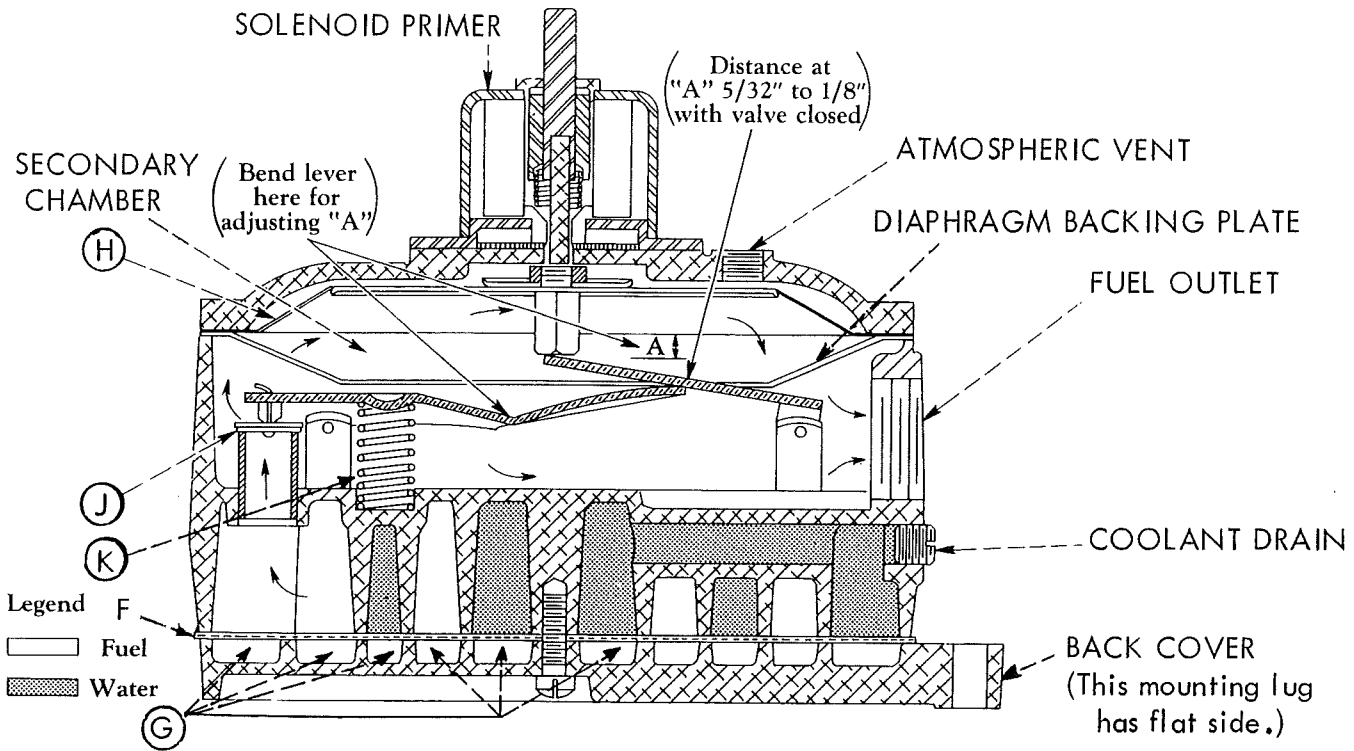
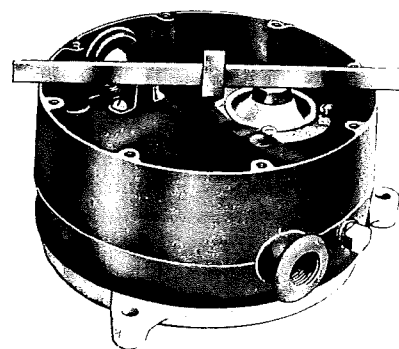

FIGURE 2
FIGURE 16
3. Secondary Regulator – Figure 2
- c. Place lever assembly in position and insert hinge pin. Be sure that compound lever is on top of valve lever. (Figure 2) Retain hinge pin with two #1H-27 hair pin cotters.
- e. Use #2V-01 Gauge to set lever height. (Figure 16) **DO NOT BEND COMPOUND LEVER.** In case no #2V-01 Gauge is available, measure from a straight edge across face of casting to closest point on tip of compound lever. Distance should be 1/8"-5/32". (See Figure 2) Form valve lever to obtain correct setting.